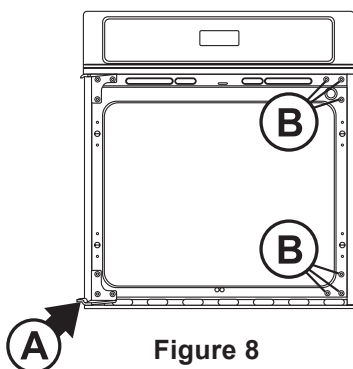
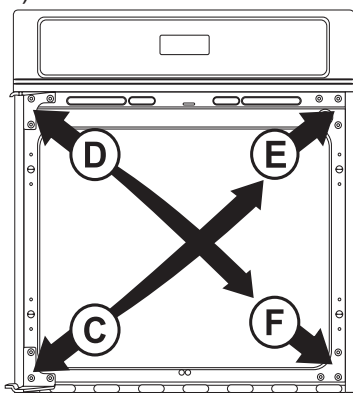

Figure 8
Figure 9
3.1.5. Reinstall the threaded pin at its initial position (see A, Figure 8).
3.2.2. Remove the lower hinge on the left side of the oven frame (See C, Figure 9) and install it on the upper right side of the oven frame (see E, Figure 8).
3.2.3. Remove the upper hinge on the left side of the oven frame (see D, Figure 9) and relocate it on the lower right side of the oven frame (see F, Figure 9).